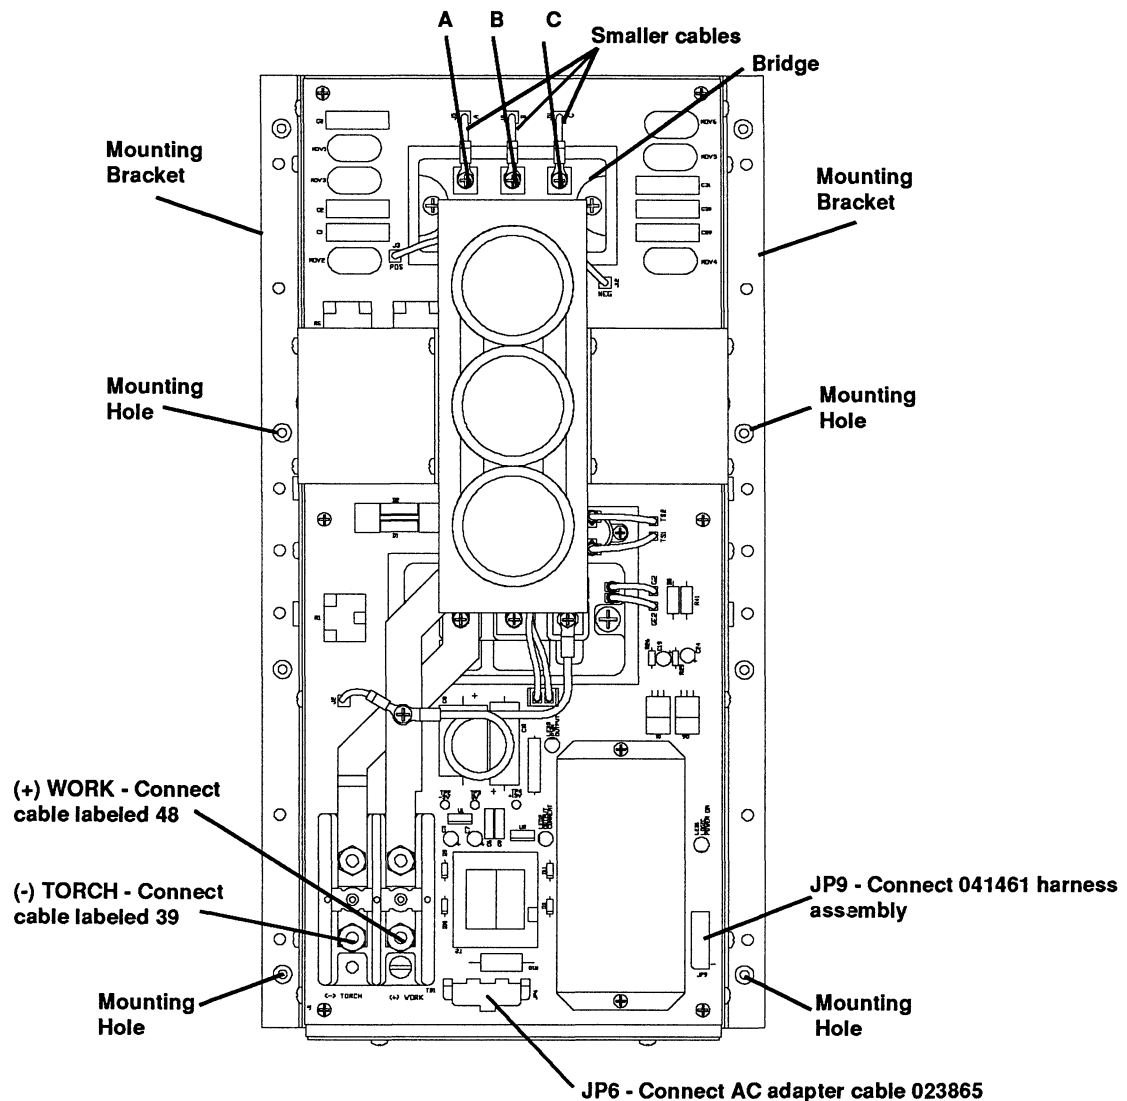

Figure 3-4 - CH130 Chopper Assembly
3. Position new chopper with large capacitors up as in Fig. 3-4 and line up mounting holes from the new chopper assembly to the lower four holes on the front panel of the power supply. Note: The chopper mounting brackets are universal, make sure the brackets are mounted as shown in Fig. 3-4. If not, remove the six screws (three each side) and remount the brackets as shown in Fig. 3-4. Screw new chopper in place.
4. Remove smaller cables from chopper to bridge and connect three-phase input cables labeled C, B and A (in that order) to the bridge of the new chopper. Replace smaller cables from chopper on top of larger cables and screw down. See Fig. 3-4.
5. Connect harness assembly with small PC board (041461) to JP9. See Figs. 3-4 & 3-1.
6. Connect AC adapter cable harness (023865) to JP6. See Figs. 3-4 & 3-1.